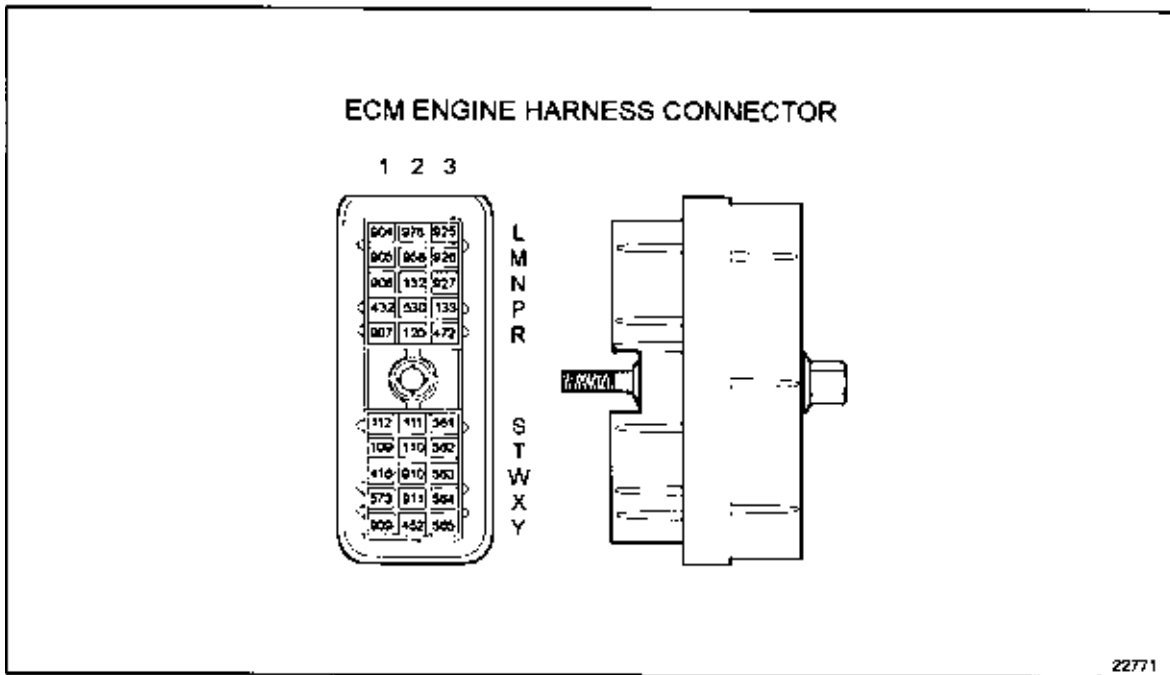

Figure E-2 ECM Engine Harness Connector View
- ECM Engine Harness Connector View - see Figure E-2